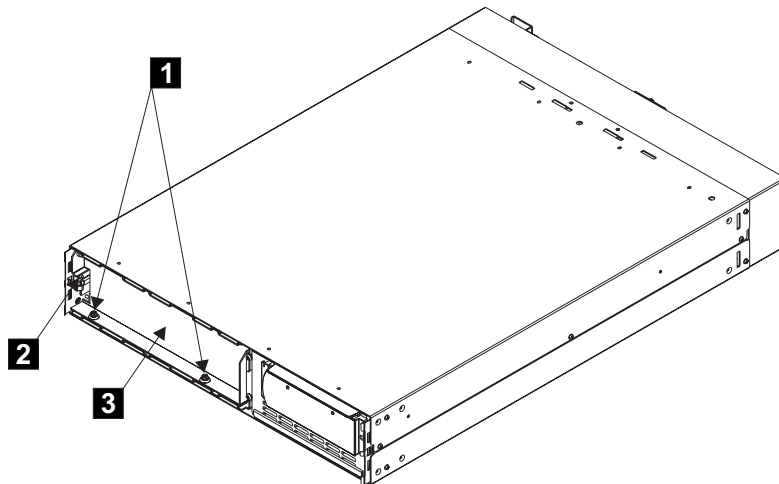

Figure 68. Removing the battery retaining bracket
3. Remove the battery retaining bracket (see Figure 68 on page 197).